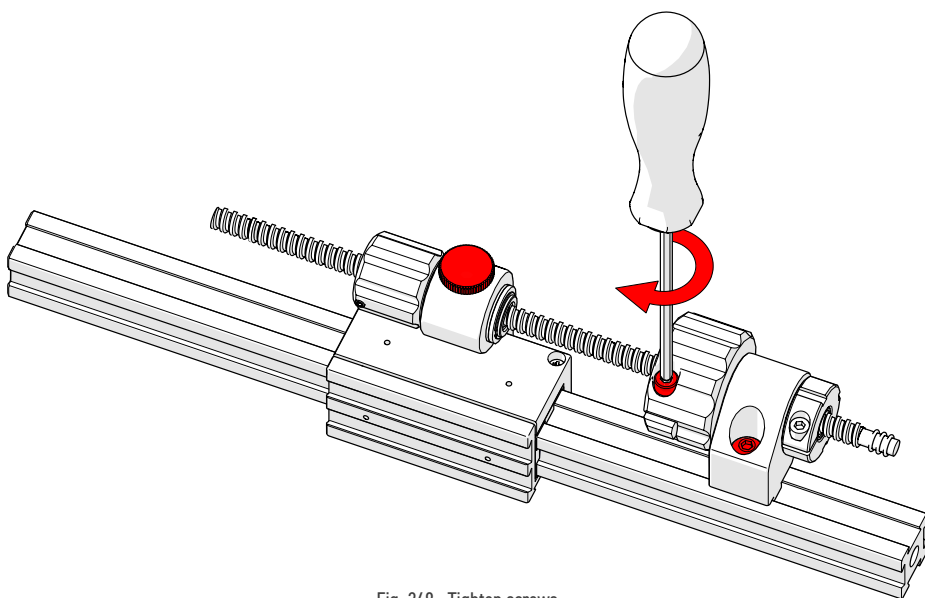

Fig. 249 - Tighten screws
7. Tighten the the main knob's hexagonal screw and lock screw as well as tighten the slider lock knob (*Fig. 249 - note red highlight*).